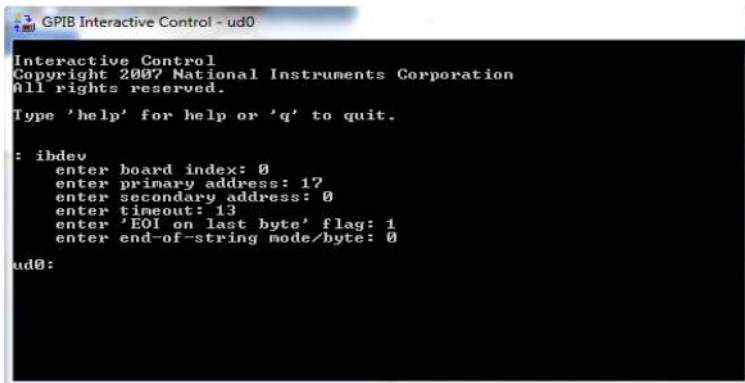

Figure 3: Screenshot of command “`ibdev`” initiated with National Instruments GPIB Interactive Control utility
1. Initiate GPIB Connection via the National Instruments command “`ibdev`”. Refer to Figure 3 below.